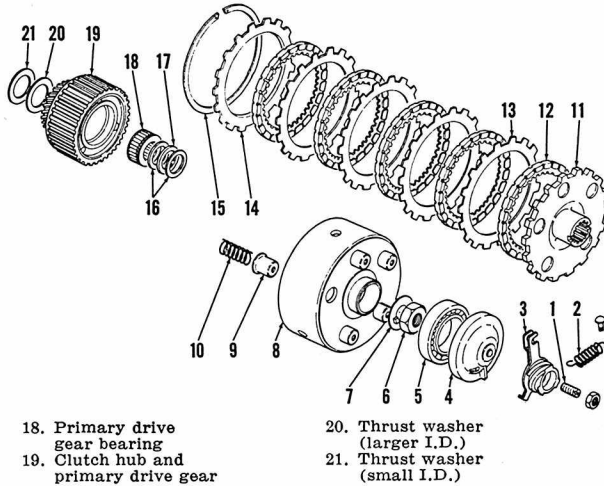

Fig. Y5-19 — Exploded view of transmission. Refer also to Fig. Y5-20.
Fig. Y5-25 — Exploded view of shift assembly. Shift fork (1) moves gear (26—Fig. Y5-19), fork (2) moves gear (20—Fig. Y5-19) and fork (3) moves gear (24—Fig. Y5-19).
**CRANKCASE AND GEAR BOX.** The 5 speed transmission is shown in Figs. Y5-19 and Y5-20. The kick-starter gear should be installed on shaft with mark on gear aligned with spring hooking hole as shown in Fig. Y5-21. Shifter stop bolts (S—Fig. Y5-22) should have approximately 1MM (0.04 in.) clearance as the stop ball falls into detent in the cam.